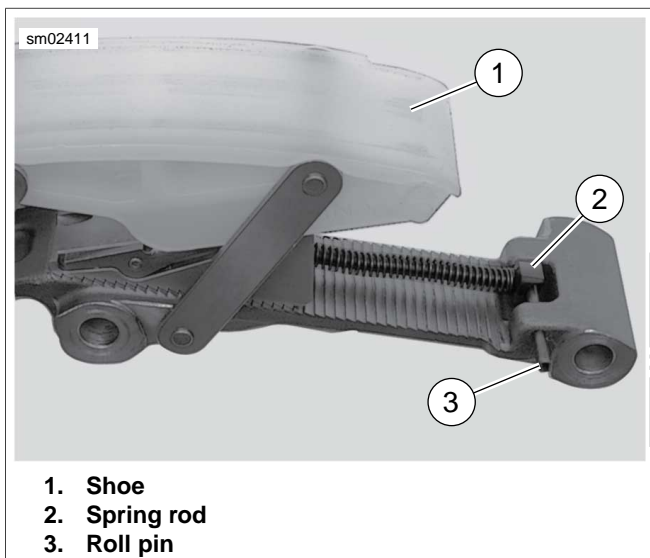

Figure 5-15. Spring Rod Location
13. See Figure 5-15. Locate end of spring rod (2) on roll pin (3).